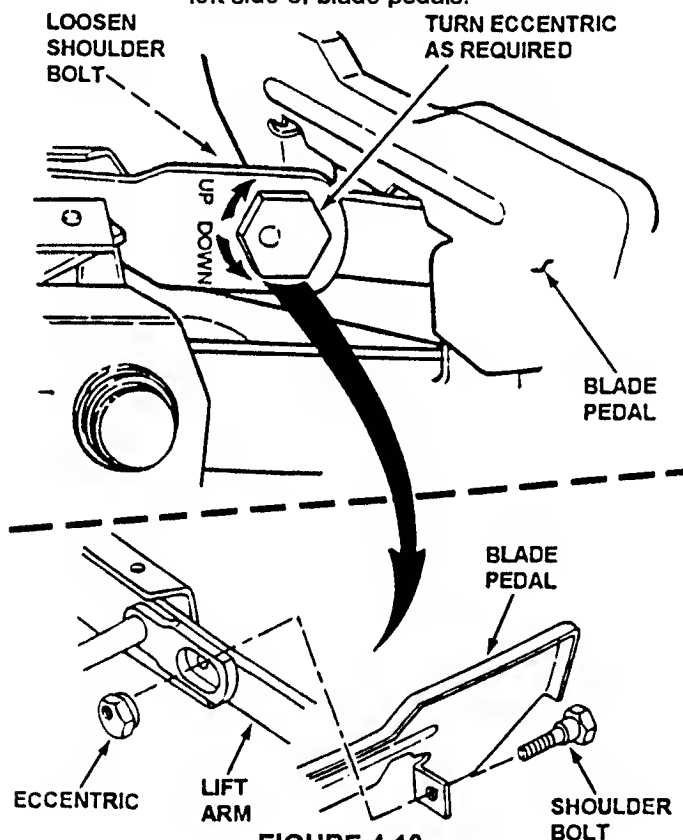

FIGURE 4.10
- Turn eccentric "UP" or "DOWN" as required until blade tips are within $1/8"$ of each other. See Figure 4.10.